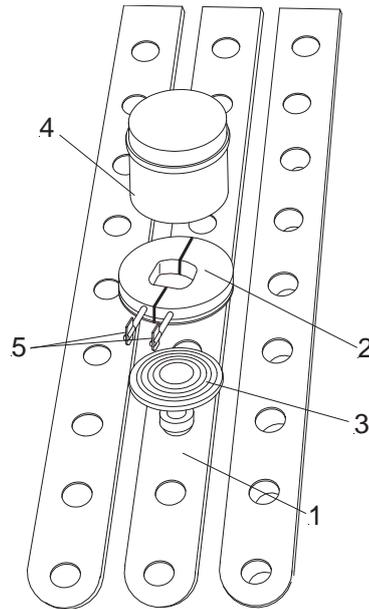
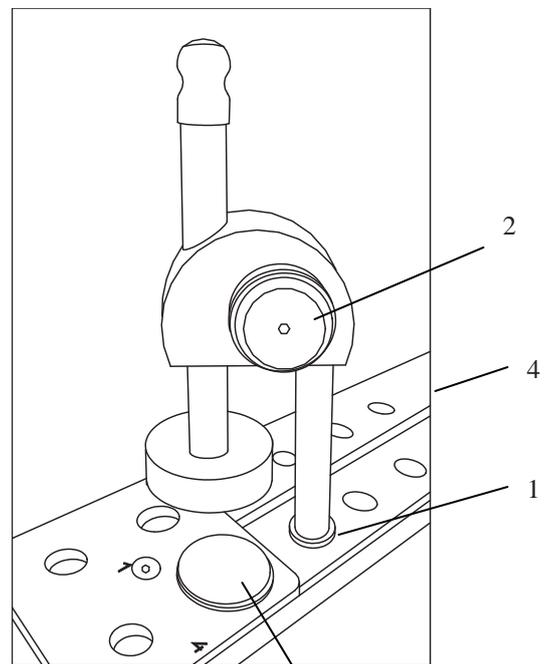

Fig. 14a
Fig. 14b
Two different heat extractors (fig. 14a and fig. 14b) are available:
**Heat extractor (fig. 14a):**
- Insert the chuck (fig. 14a.3) into the fast freezing rail (fig. 14a.1).
- Then insert a cryo mold (fig. 14a.2) onto the chuck (30 or 40 mm).
- Fill freezing medium into the mold (fig. 14a.2) and place the specimen onto the freezing medium.
- The heat extractor (fig. 14a.4) is placed horizontally onto the specimen.
**Heat extractor (fig. 14b):**
- Insert the heat extractor (fig. 14b) into the fast freezing rail (fig. 14b.1).
- To precool the heat extractor, turn the knob (fig. 14b.2) to lower the heat extractor onto the fast freezing plate (fig. 14b.4).
- Turn the knob (fig. 14b.2) to lower the heat extractor onto the specimen (fig. 14b.3).
- Further turn the knob (fig. 14b.2) to increase the pressure onto the specimen. Carefully observe this process to avoid a possible deformation of the specimen.
- To loosen the heat extractor, turn the knob (fig. 14b.2) in opposite direction.